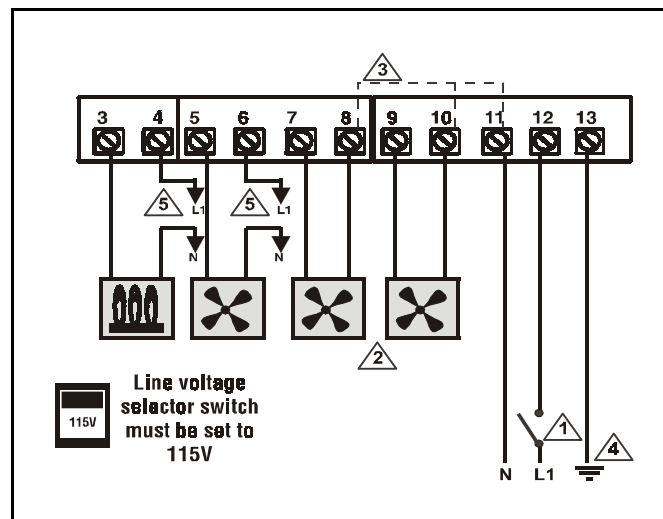

Fig. 1
For the connection procedures which follow refer to Figures 1 through 3.
**Notes for Figures 1, 2, and 3**